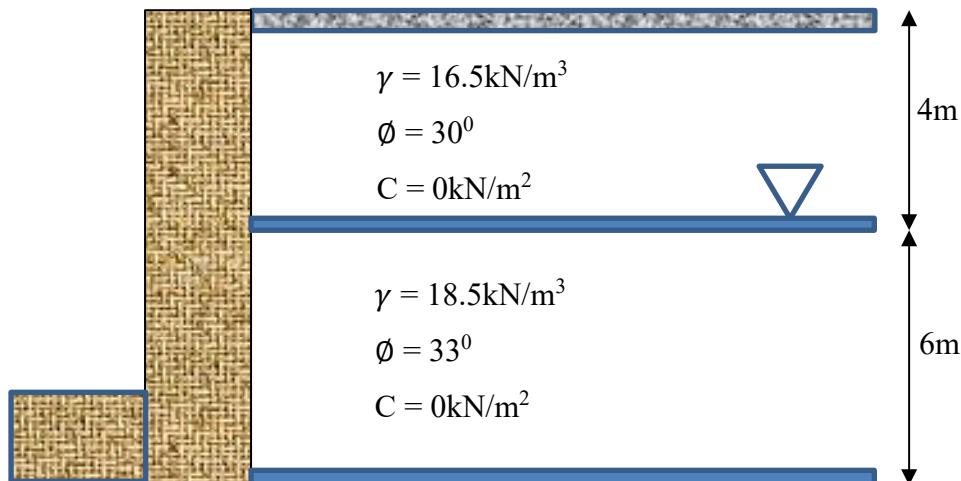

Figure B1(a)/ Rajah B1(a)
- (a) A retaining wall built during the excavation work as show in **Figure B1(a)** to bear two soil layers behind it. Regardless of passive pressure in front of the retaining wall. Based on Rankine Theory, calculate the magnitude and the position of the active thrust of soil behind the wall.